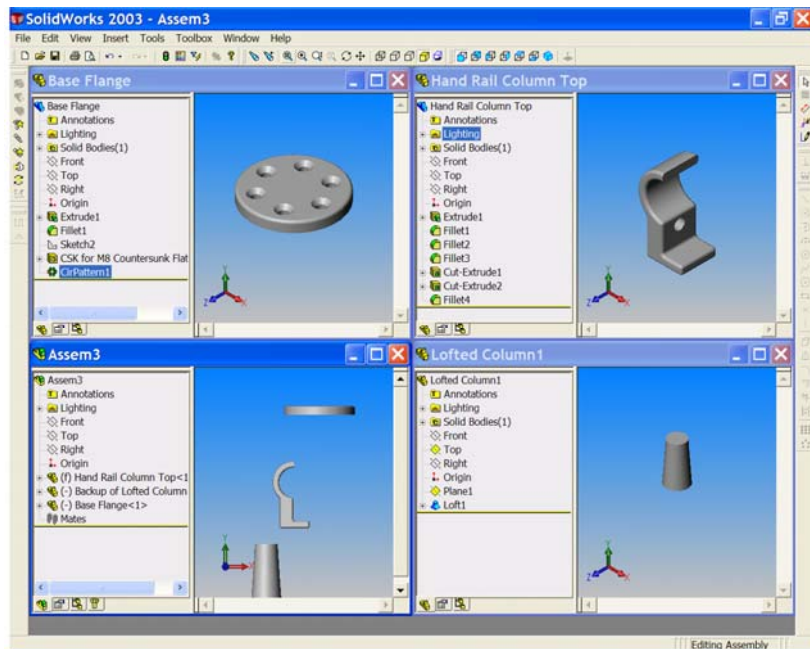

Figure 10
25. From the **'Window'** drop down menu choose **'Tile Horizontally'**. See Figure 10.